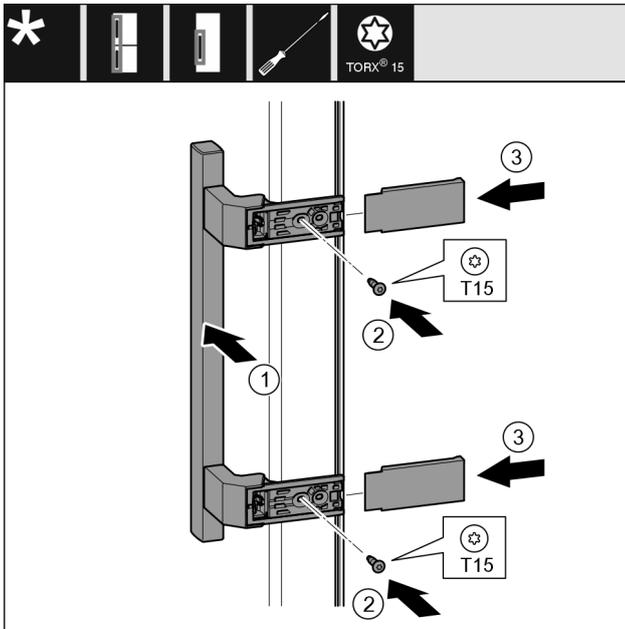

Fig. 22
- ▶ Place the handle Fig. 22 (1) on the opposite side.
- ▶ Tighten screws Fig. 22 (2) with screwdriver.
- ▶ Place the covers Fig. 22 (3) on the side and push them on.